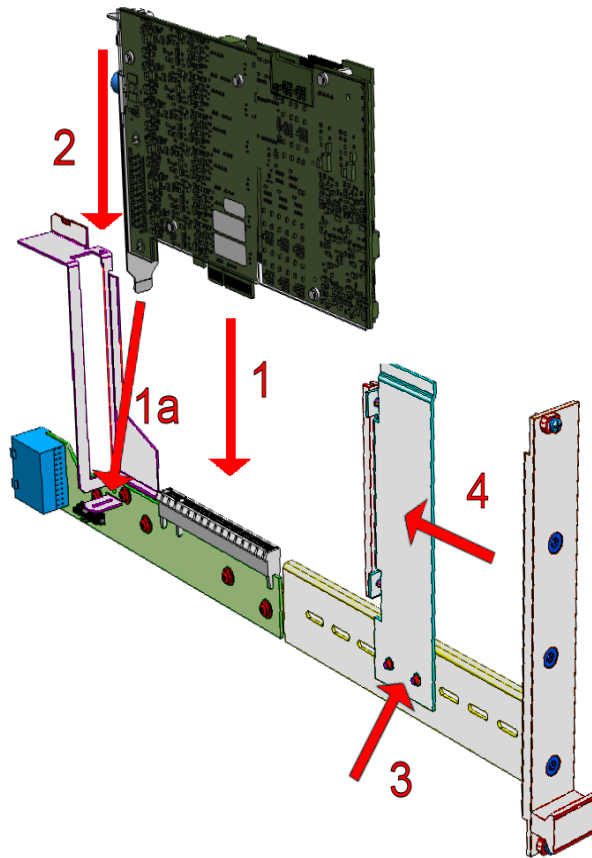

Fig. 3-4 Installing a PCI Express Board in the ES5370.1 Carrier Board (see Text)
1. Insert the PCI Express board as you would into a normal PCI Express slot (see Fig. 3-4 on page 47).
- Slide the holding device toward the board until it is held securely (3) and then screw it tightly to the carrier board (4).